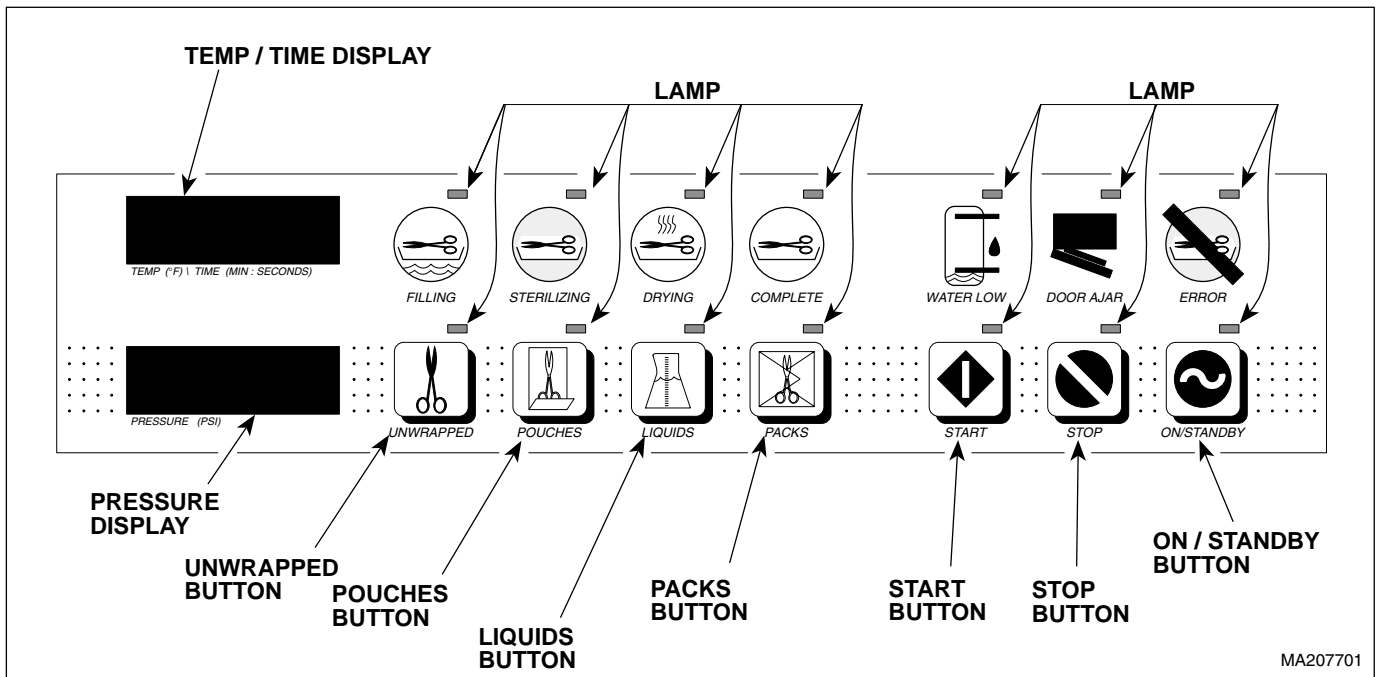

Figure 4-33. M9 / M11 Door Opening Test
- (1) Fill chamber with water. [To do this, start any cycle. After chamber has filled with water, the Sterilizing LED will illuminate]
- (2) Disconnect power cord.
- (3) Open door.
- (4) Press and hold **STOP & POUCHES** buttons (see Figure 4-33) while plugging in power cord.
- (5) Press and release all buttons from left to right across display panel.
- (6) Close door. [This will activate all relays in the sterilizer in sequence. Pulse solenoid should automatically open door when test cycle is complete].
- (7) To rerun test, repeat steps 2 thru 6.
- (8) To verify proper operation, run a complete cycle when test is complete.